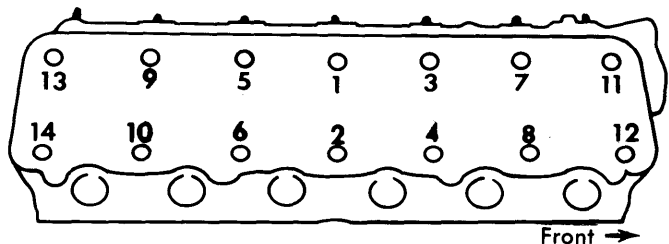

Fig. 1 Cylinder Head Tightening Sequence
**Installation** – Coat gasket with suitable sealer. Install gasket and head on cylinder block. Install bolts and tighten in two steps to specifications. Use tightening sequence shown in Fig. 1. Install rocker arm and shaft assembly, connect all wires, hoses, cables and linkage previously removed and reverse remainder of removal procedure.